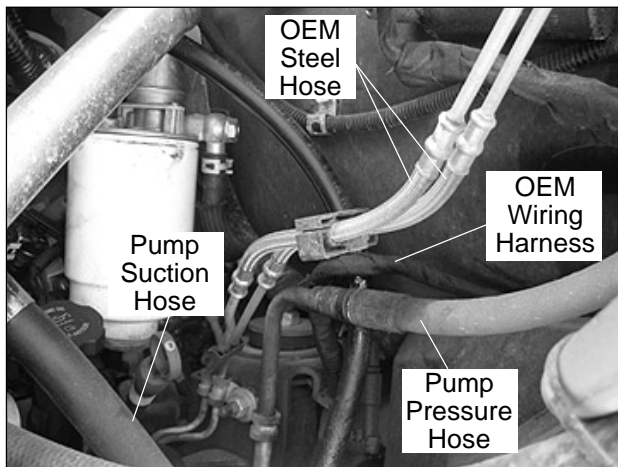

Figure 1 — Inspection Area, Example 1
3. Review all hydraulic hoses connected to the hydraulic pump for evidence of wear or damage (refer to Figures 1 and 2). Installations of aerial device components can differ from chassis to chassis causing the routing of hoses or wiring to be in different places in the